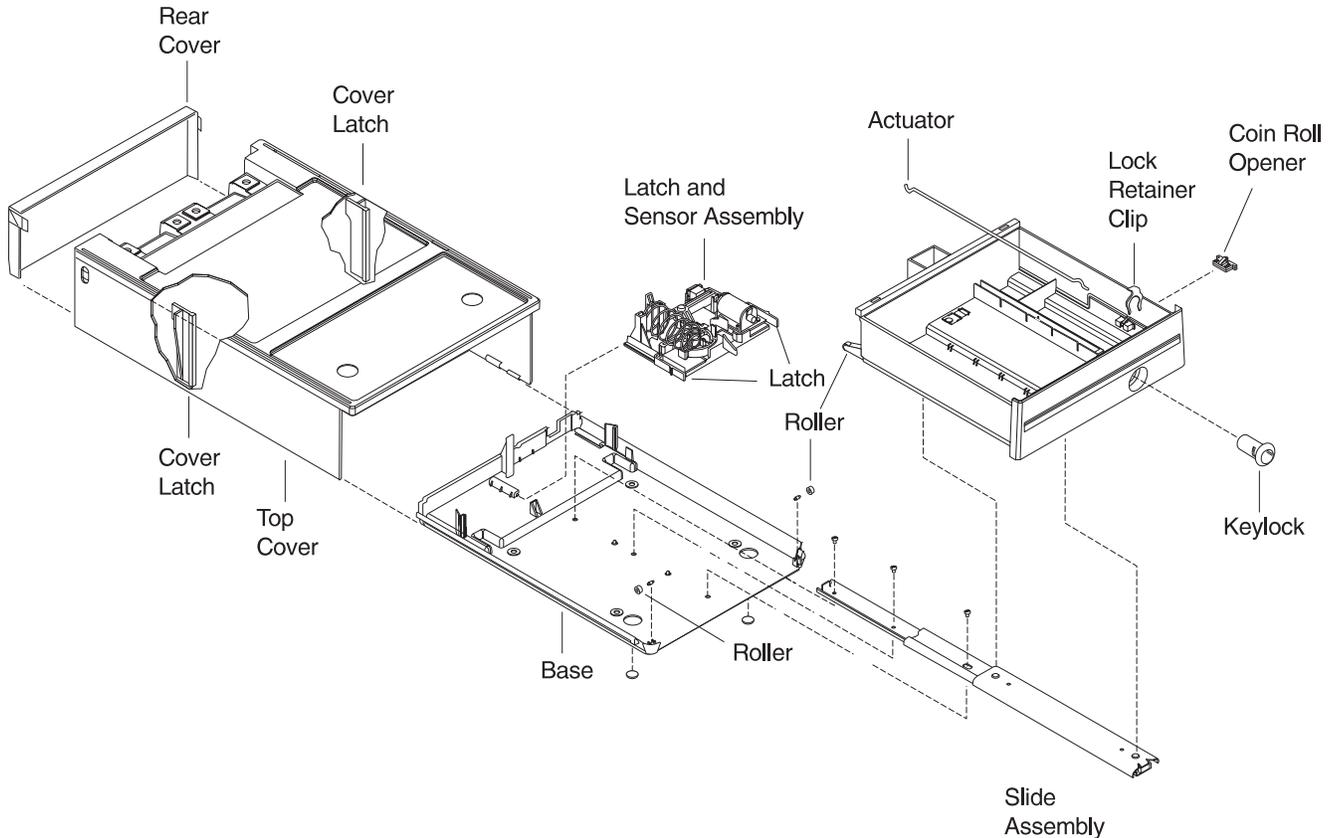

Figure 2-14. Compact Cash Drawer Assembly
- 3 Remove the three screws that secure the slide to the base and lift the slide assembly out. See Figure 2-14.
- 2 Remove the lock retainer clip holding the keylock assembly on the inside of the drawer. See Figure 2-14 on page 2-20.
- 4 To exchange the keylock assembly, make sure the lock actuator rod is in the position shown in Figure 2-14 on page 2-20.
- 6 Reach into the front with two hands and push the two cover latches to the outside while sliding the top cover to the rear. See Figure 2-14 on page 2-20.
- 5 Reach in from the front with two hands and push the latch on each side of the latch assembly inward while pulling the assembly toward the front. See Figure 2-14 on page 2-20.